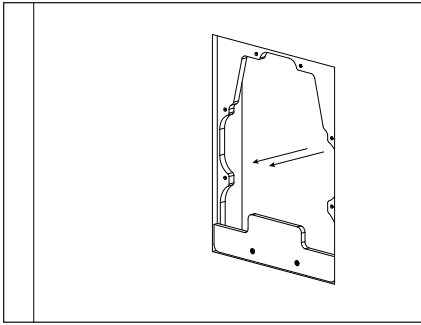

Fig. 5d
- d) Using the block as your guide, pull frame toward you so that it aligns on all sides with inside edges of the cutout. The block will protrude through the opening at bottom (Fig. 5d).